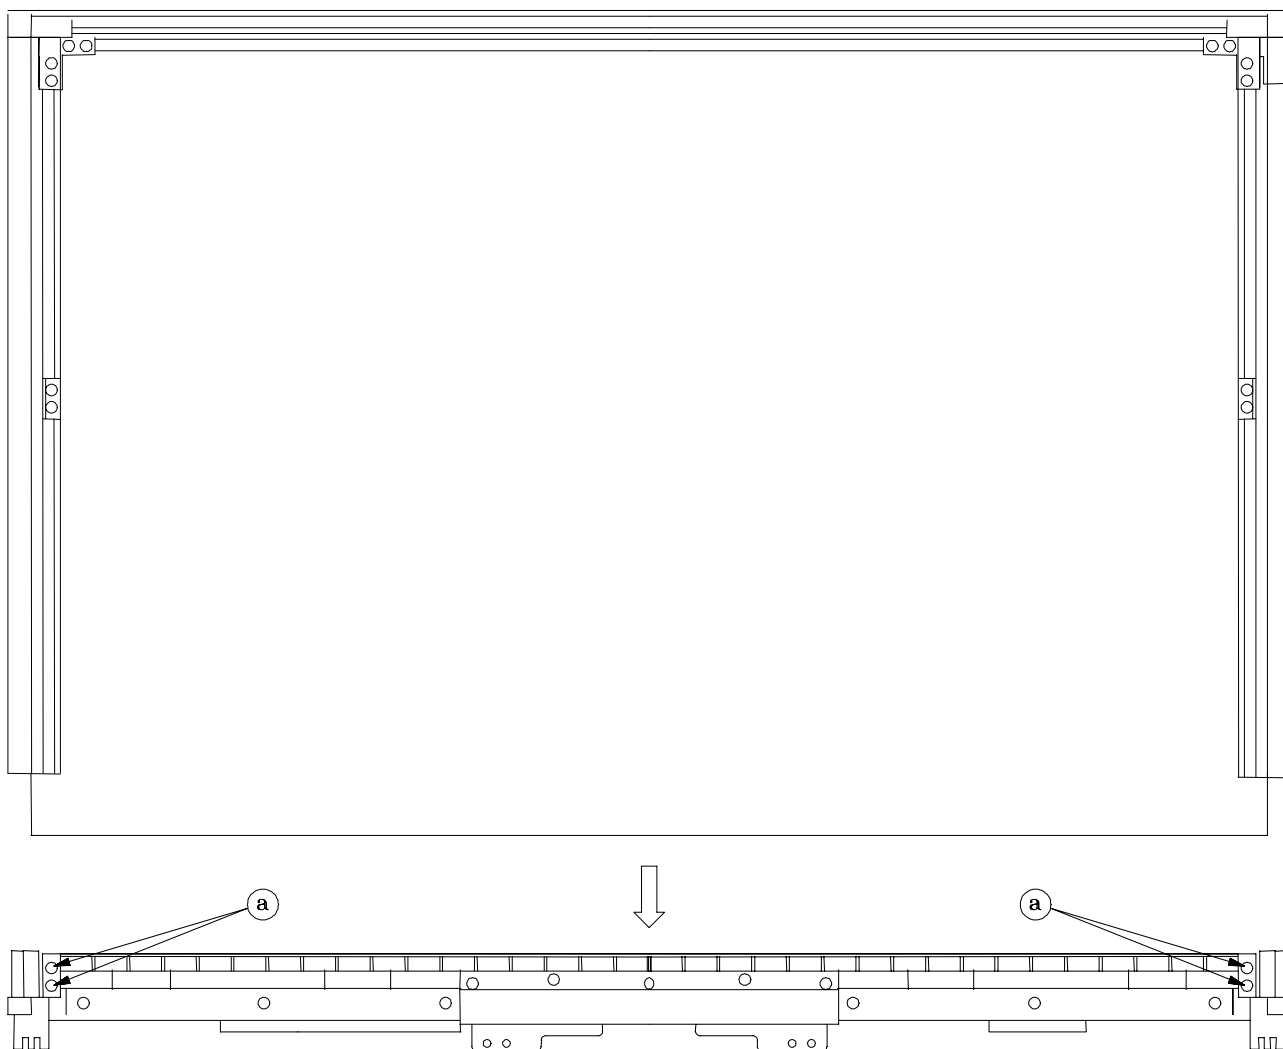

Figure 1: SCREEN-FRAME-BOTTOM Removal (Rear View)
2. Remove the four screws (a) to remove the bottom of the SCREEN-FRAME-BOTTOM . (*Figure 1*)